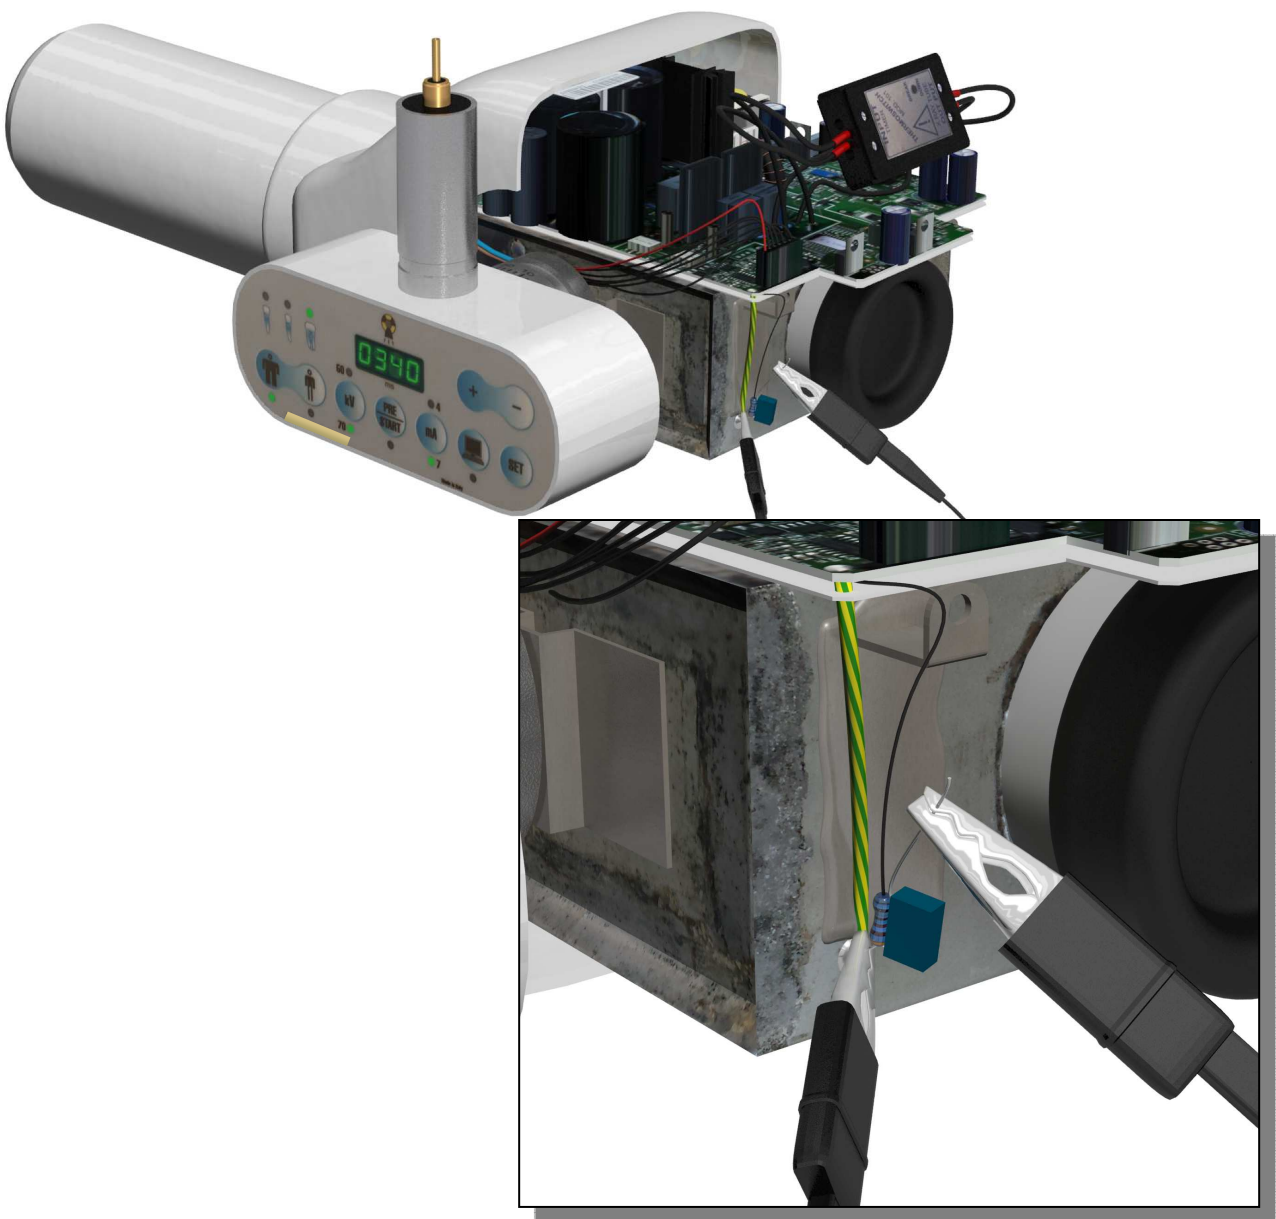

fig. 27
- ✓ After removing the back cover, making reference to fig.27, connect oscilloscope / tester terminals across the resistor to 1K Ω .
It is necessary to set the full scale of the multimeter in an appropriate manner in order to measure the voltage across the resistance; then after positioning the end sleeves of the multimeter across the resistor (as shown previously in fig.27) set an exposure time long enough to allow the multimeter to read this voltage (the order of magnitude of the exposure is approximately 1 sec). The value that is expected to read is like in the previous case of about 7 V / 4 V depending on the current value set on the timer (to each V corresponds 1 mA)